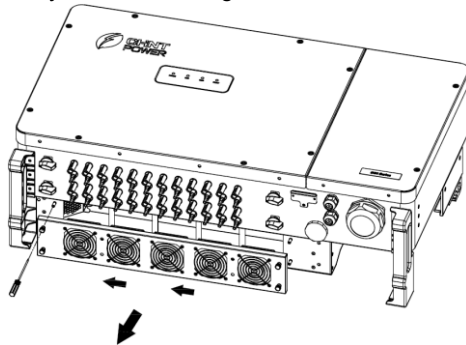

Fig. 6-1 Remove the fan tray and fan
1. Use a No.2 Phillips head screwdriver to remove the 4 screws fixing the fan tray as shown in Fig. 6-1.